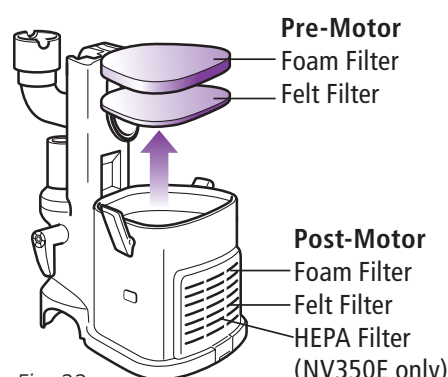

Fig. 22
- 2 Pull the 2 filters out from the top of the motor base. **(Fig. 22)**